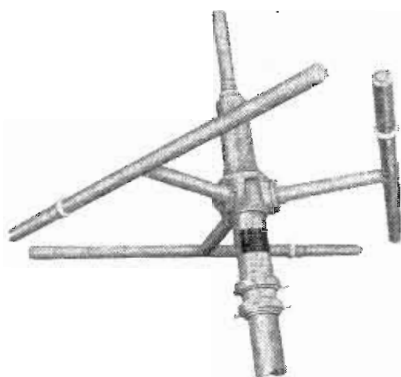

Fig. 1—Bendix type CA-1246 antenna for producing circular polarization
In the method of measurement, illustrated in Fig. 1, the known and unknown oscillations are introduced alternately into the limiter and frequency discriminator through the medium of an electronic switch. The vertical deflection of the oscilloscope beam is defined in terms of frequency in the following manner.
Fig. 1—Block diagram of the electronic switch for operation about a median frequency of 65 mc. It consists of a pair of identical, stagger tuned amplifiers. The output of the square wave generator on the left is applied to the suppressor grids so as to allow the two paths to conduct alternately
• It was required that the antenna azimuth coverage pattern taken at any vertical angle between 0° and 20° above the horizon in any single plane of polarization exhibit an overall variation no greater than 2 db; that the maximum overall signal variation between all planes of polarization at any single vertical angle between 0° and 20° and any azimuth be not greater than 3 db. It was further required that the standing wave ratio on the 52-ohm coaxial feed cable be less than 1.5 to 1 over the 118 to 122 mc frequency range. The antenna (Fig. 1) was produced in two sizes, 110-112 mc and 118-122 mc. Only the latter is discussed.